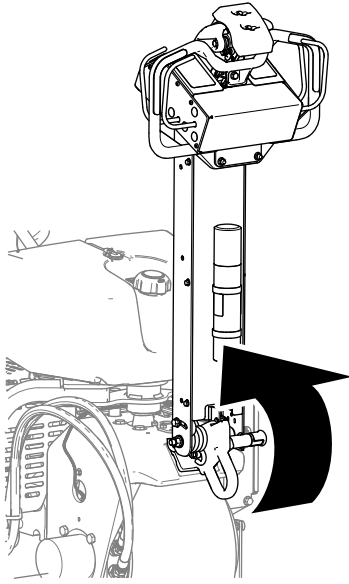

Figure 72
1. Fully raise the handlebar to engage the parking brake (Figure 72).